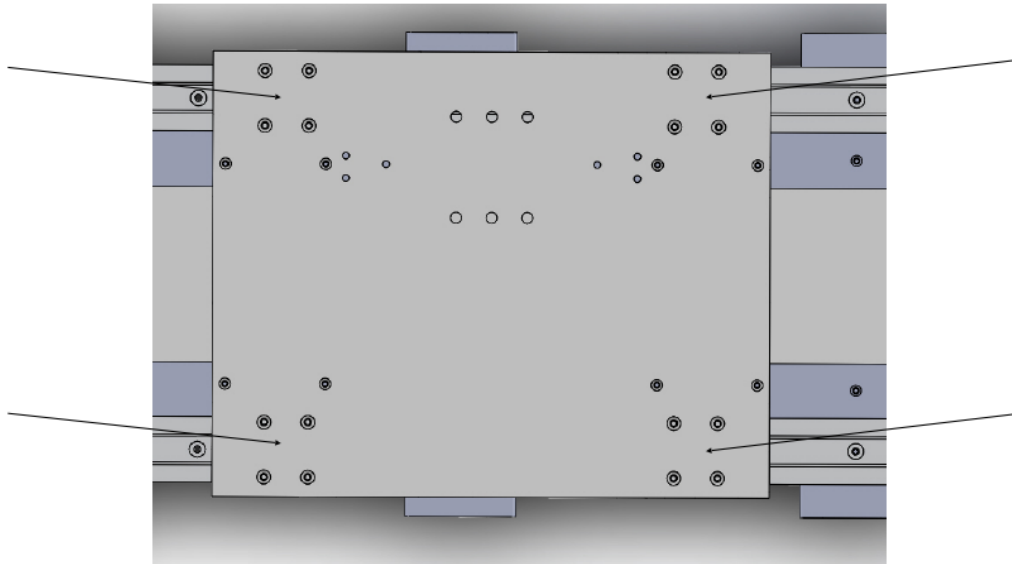

Figure 4: 16x M6 screws
12. Use the 16 xM6 screws to connect the tube stand to the floor mount. (figure 4)